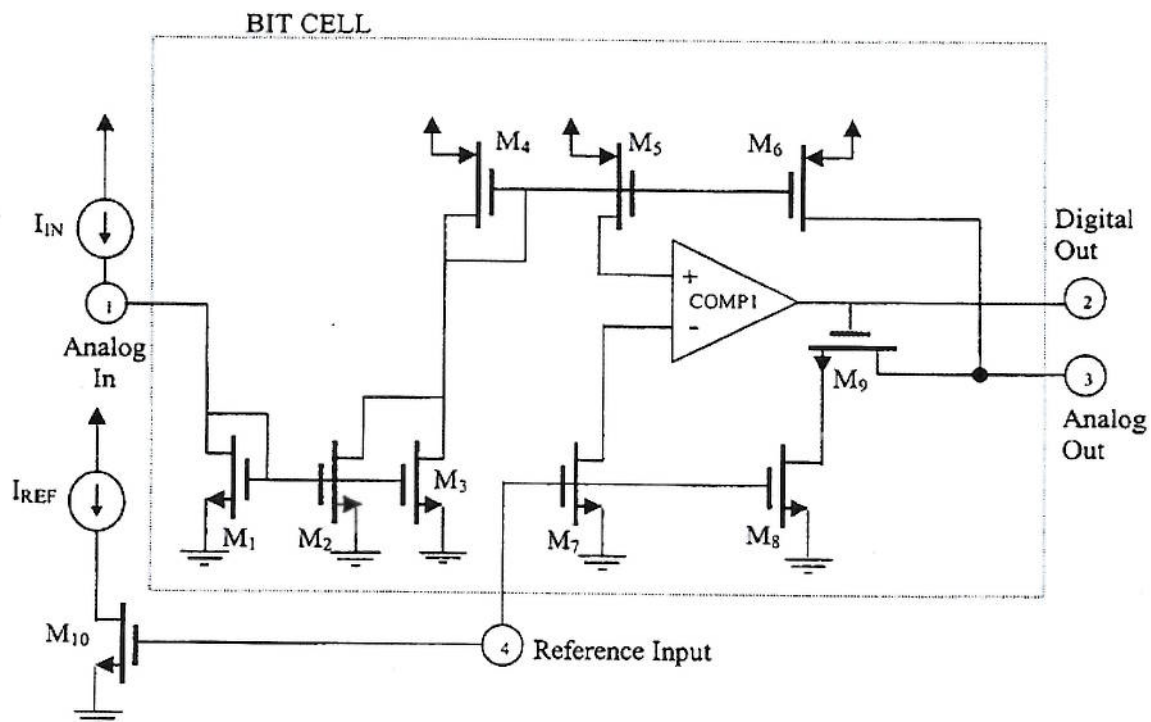

Figure 5
- (b) The circuit shown in Figure 5 is a single bit cell of a current-mode algorithmic analogue to digital converter. Briefly describe the operation of the cell and give reasons why this converter is particularly suitable for mixed-analogue and digital VLSI.